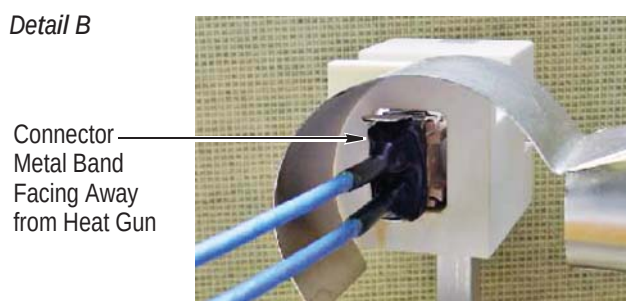

Figure 15
e. Place Reflector TG-13/A-170-HG-RFL-LARGE onto the Steinel HL1910E heat gun, or equivalent heat gun, using the reflector adapter ring. Make sure the adapter ring and reflector are fully seated on the heat gun. See Figure 15, Detail A.
f. Place the heat gun into the cut-outs in the base of the fixture as shown in Figure 15, Detail A. Make sure that the reflector is squarely against the face of the connector positioning block. If it is not square, rotate the reflector into position.
i. Insert the plug connector into the opening in the connector positioning block with the metal band facing AWAY FROM THE HEAT GUN. See Figure 15, Detail B. Heat the plug connector for **90 seconds**. Do not start timing until the plug connector is fully seated in the connector positioning block. Verification can be obtained through the visual inspection slot.